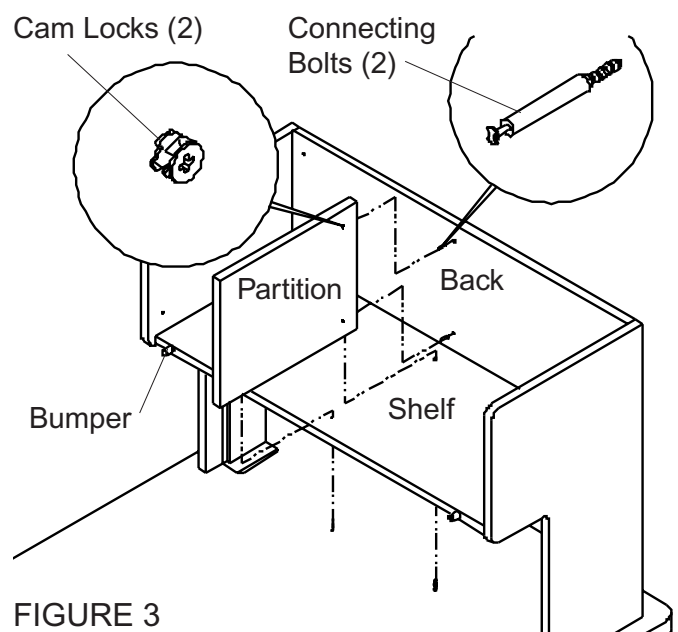

FIGURE 3
7. Insert (4) #10 x 5/8" screws through the holes in shelf and into predrilled holes in back and tighten.
8. Insert (2) nuts into holes on center of back and (2) nuts into holes on partition. Arrows on cam lock must be facing toward partition (open position). (Figure 3)
10. Align screw holes in the bottom of partition and the shelf. Insert (2) #10 x 5/8" screws and tighten. (Figure 3)
15. Peel adhesive back off door bumpers and attach to front of shelf as shown. (Figure 3)